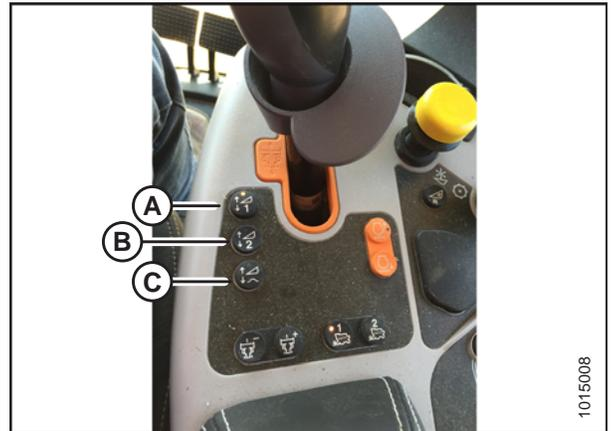

Figure 3.429: New Holland Combine Controls
5. Select one of auto height set point buttons shown in Figure 3.429, page 241.